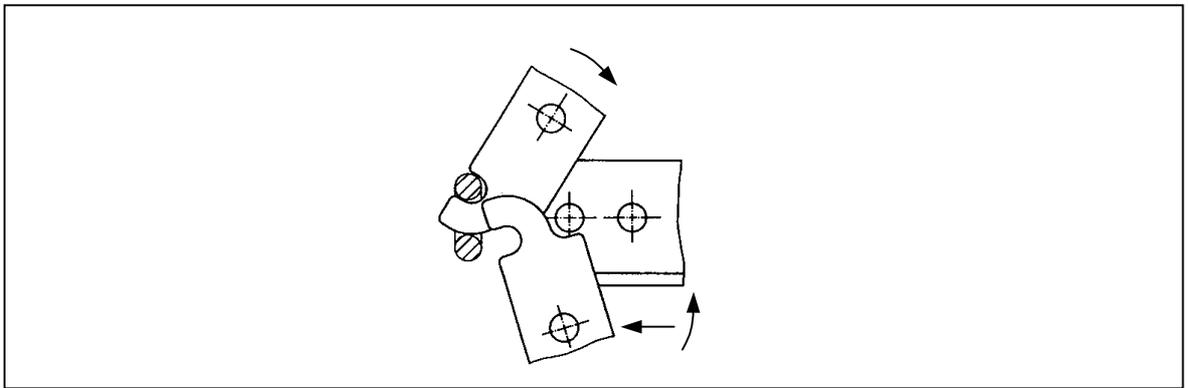

Fig 2
2. Hook the attachment parts into the chain as shown in figure 2.